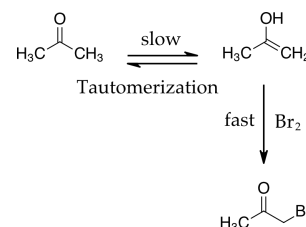

Figure 4: α -bromination of acetone
4. Bromination of acetone in water is fast but the rate is independent of bromine concentration. (See figure 4). Can you explain the observation by proposing a mechanism for the reaction?